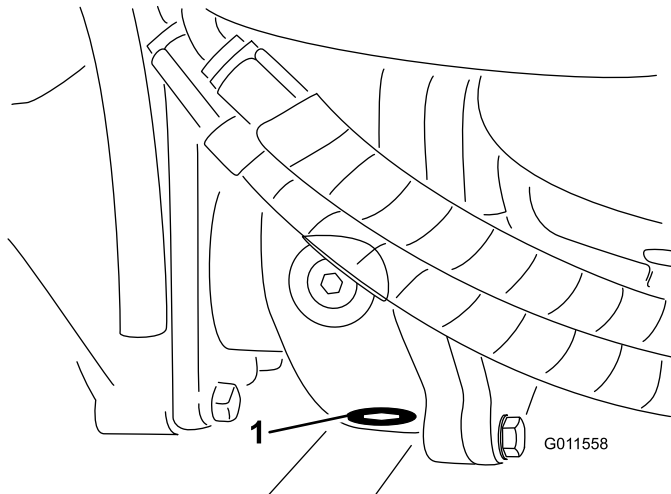

Figure 72
5. Clean the area around the drain plug at the bottom of the gear box (Figure 72).